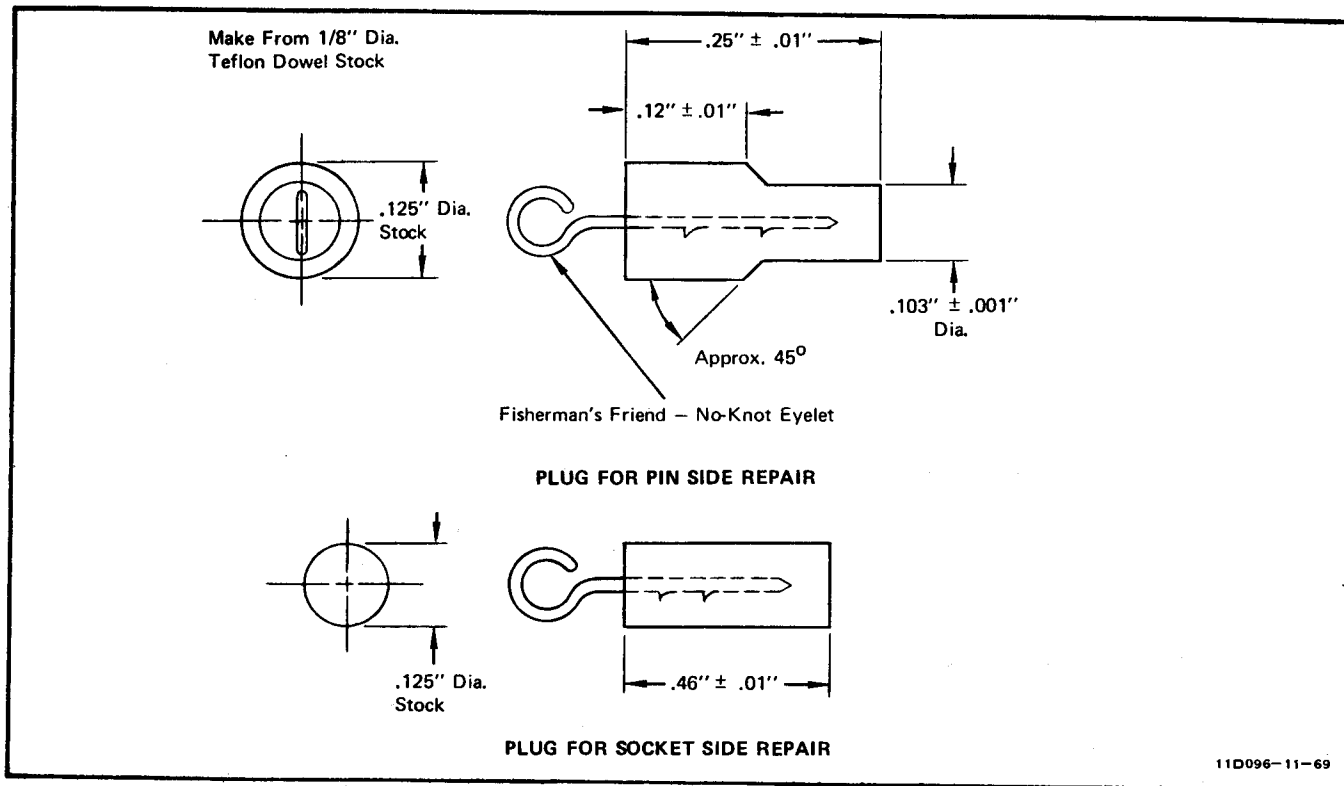

Figure 11-39. CVC6092, CVC6093, CVC6095, and CVC6096 Series Connectors - Repair
**2. Insert teflon plugs (figure 11-39) into all holes adjacent to the damaged area and, if required, attach teflon covered plates with holding fixture or rubber bands.**